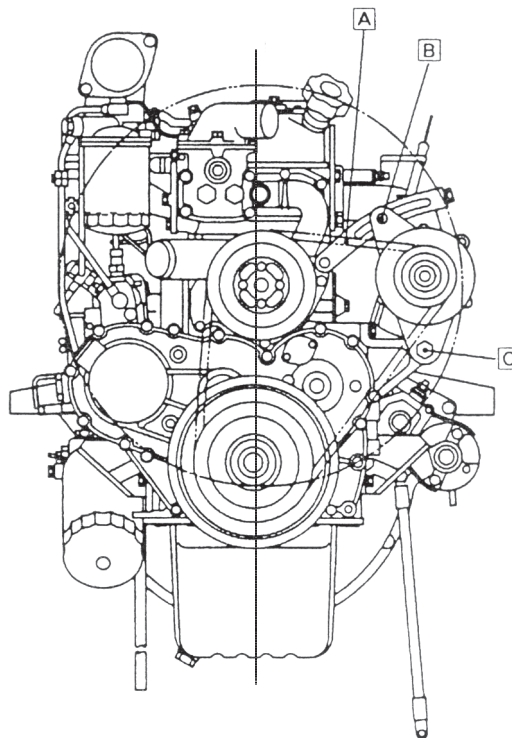

Fig. 1.9
(3) Adjust the belt of fan and tighten if it is loosened. Refer to Fig. 1.9.